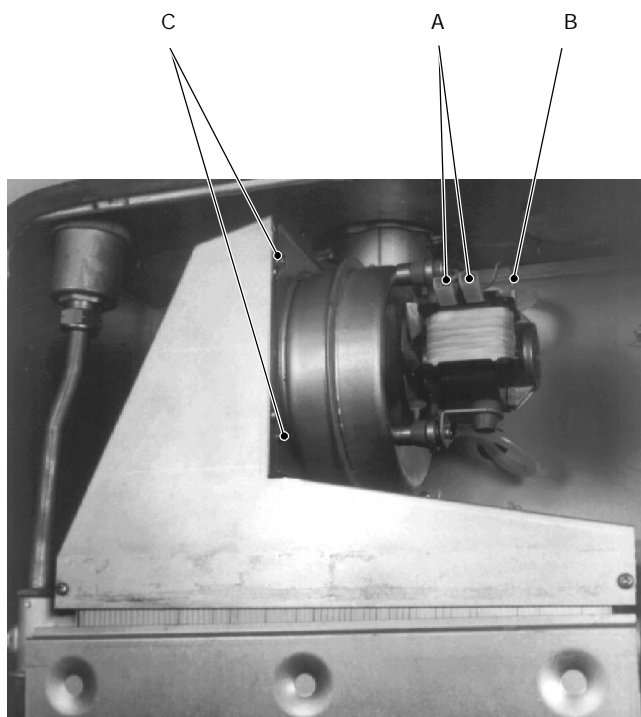

fig. 79
Disconnect the connectors A (fig. 79) and measure the electrical resistance of the motor that has to be about 47 Ω.
- 2 disconnect the connectors *A* and the earth connection *B* (fig. 79);